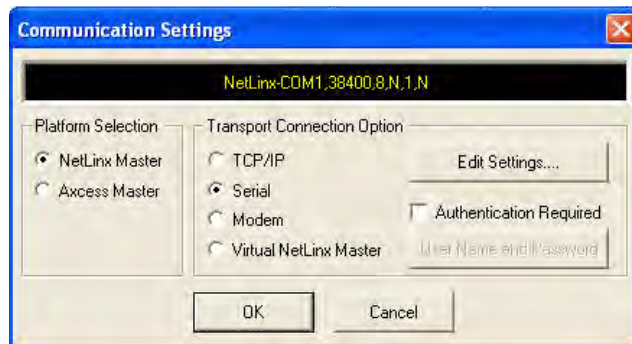

FIG. 38 Communications Settings dialog
3. Click the **Communications Settings** button to open the *Communications Settings* dialog (FIG. 38).